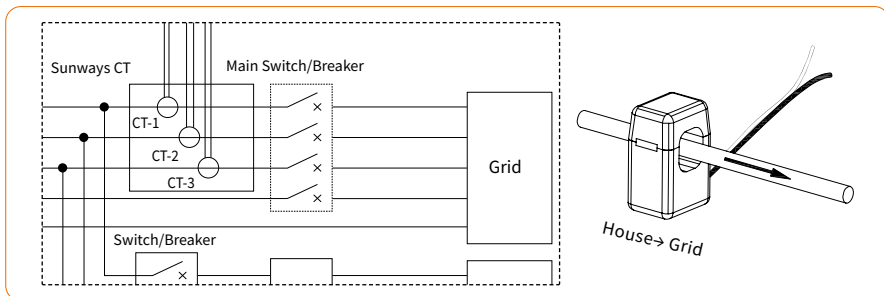

Figure 4-26 CT connection diagram
1) The current transducer, also called CT, is usually installed on the fire wires between the house loads and the power grid, as shown in Figure 4-26.